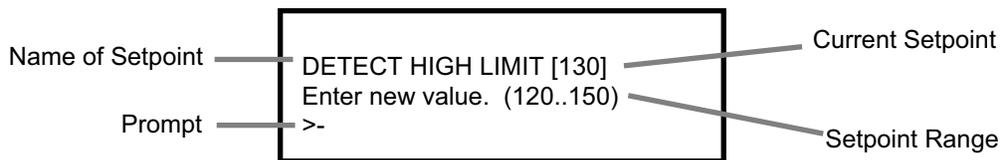

Figure 51
3. The Setpoint Change Screen appears (Figure 51). Type the new value that is within the range of acceptable parameter limits and press **Enter**.